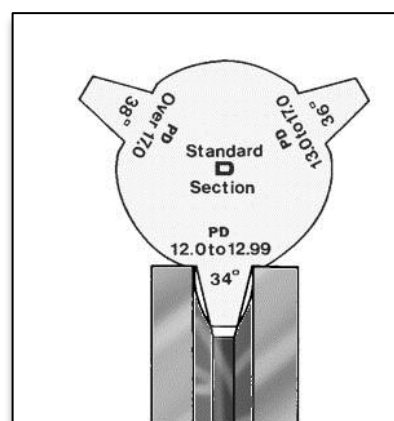
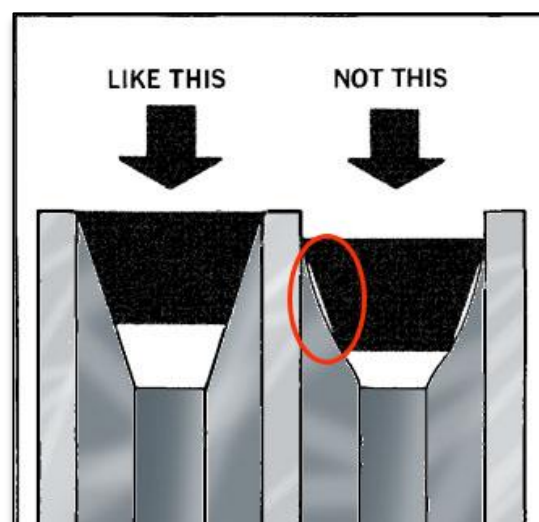

Figure 28
Figure 29
- Observe the status of the system looking for worn sidewalls (Figure 28), damaged sides (Figure 29), shiny groove bottom (Figure 30). If there are signs similar to the ones represented on the three previous figures or visible damage to the belt, please proceed immediately to the substitution of the component following the procedure exposed in the previous chapter of this handbook;